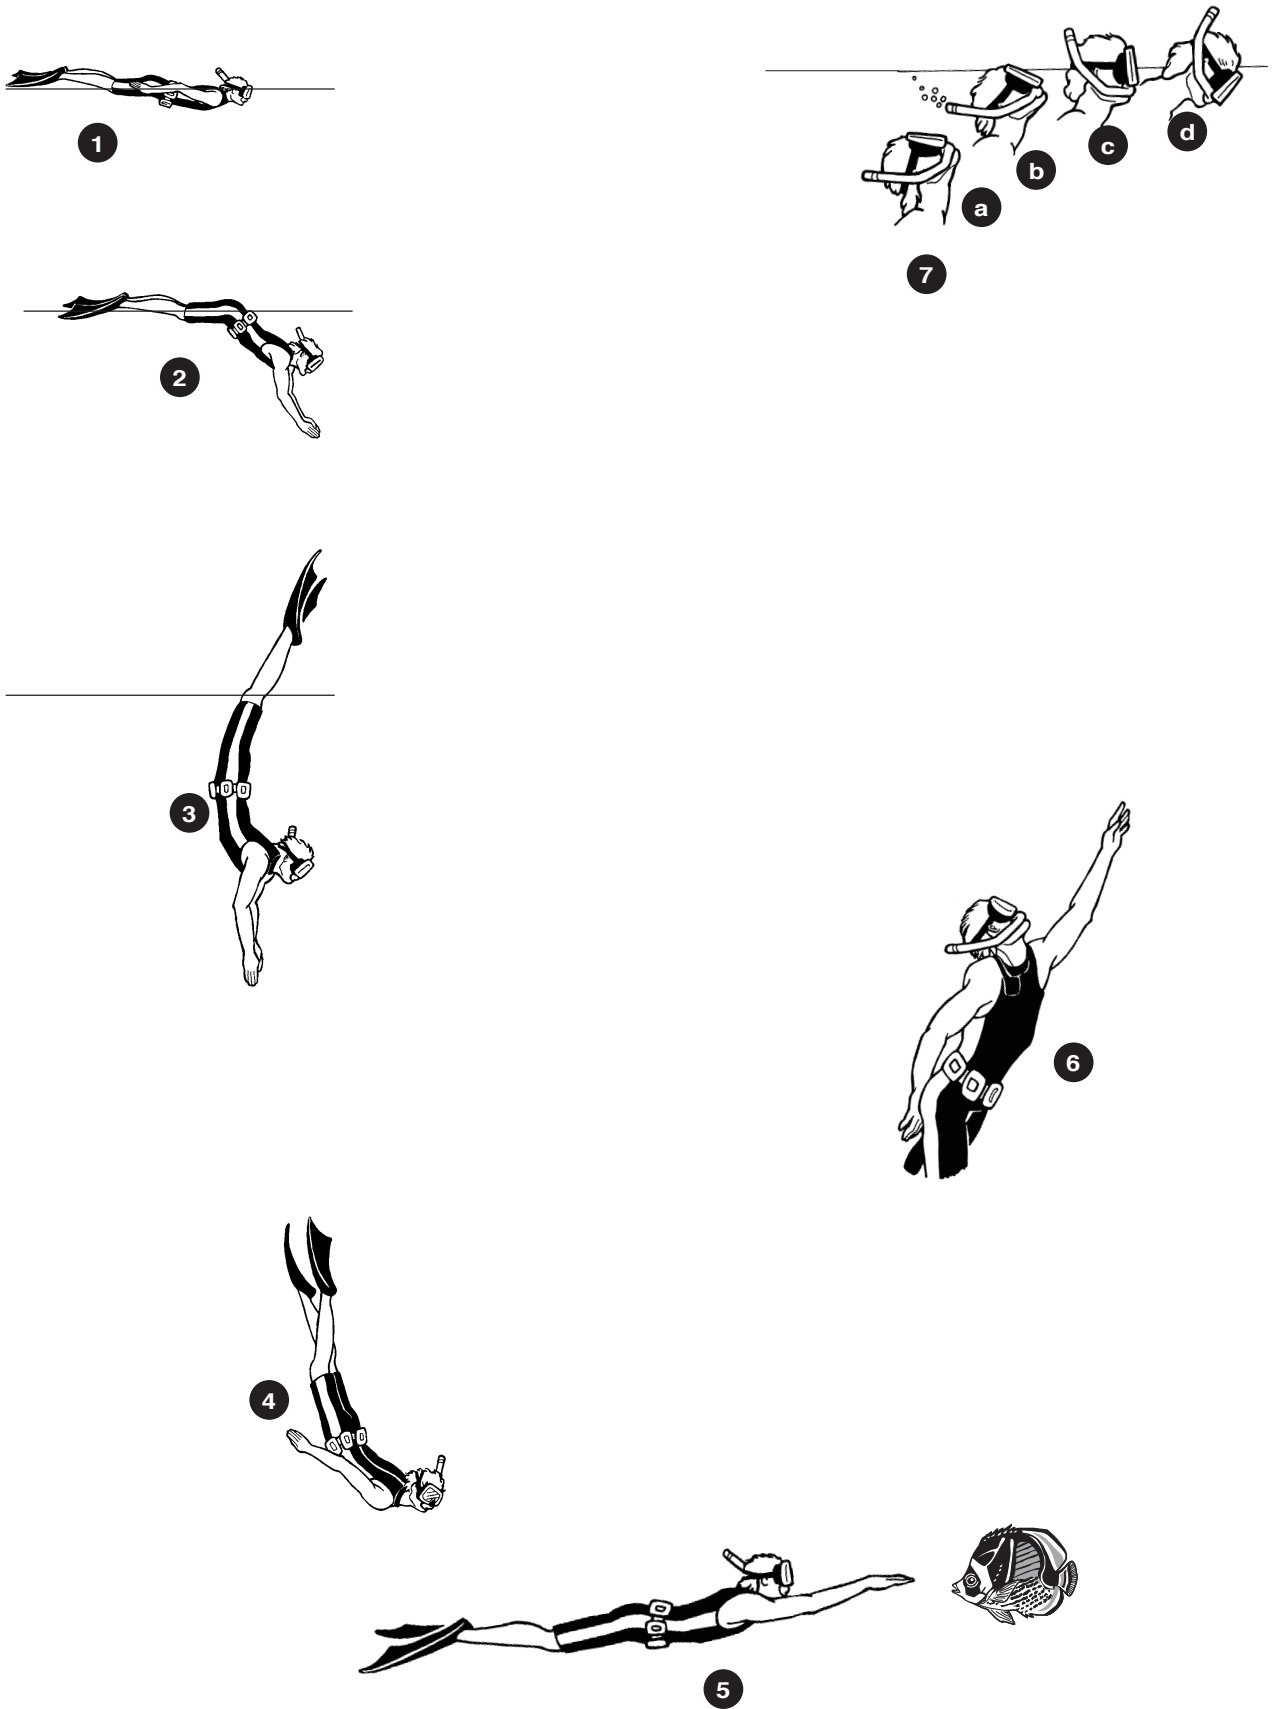

Figure 136.1 The duck dive
1. Look at the diagram in Figure 136.1 and answer these questions.